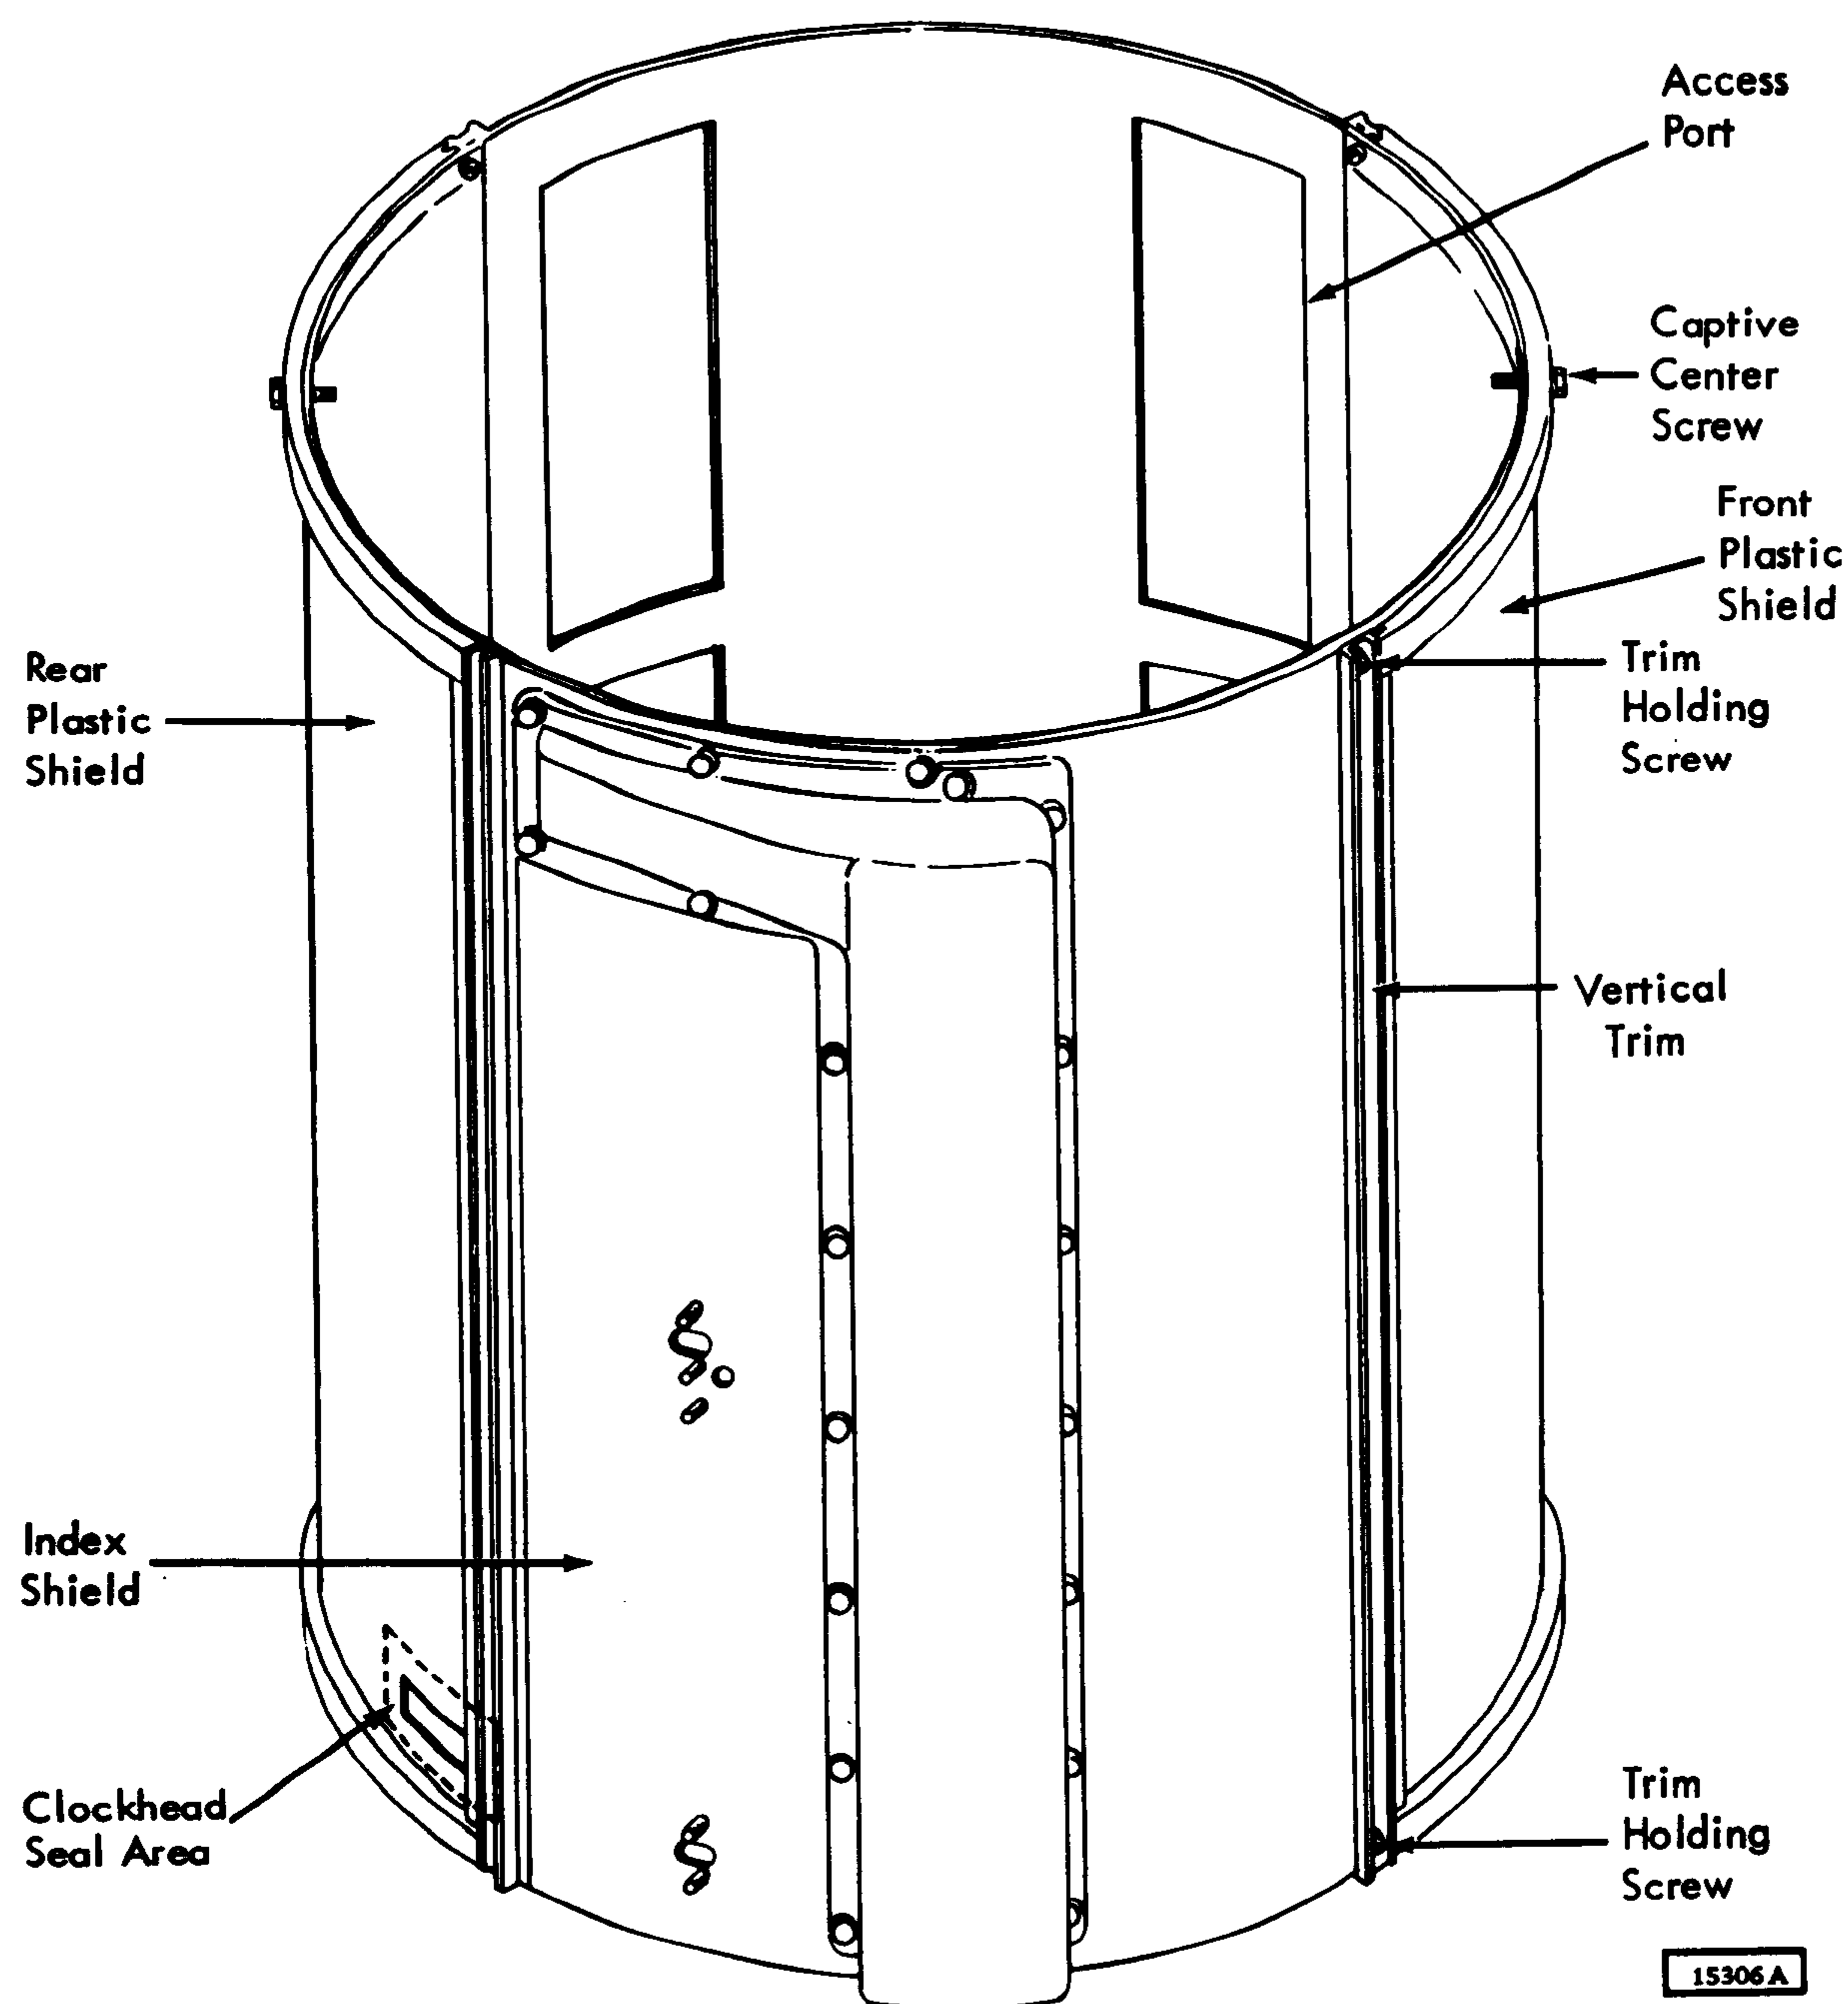

Figure 4-1. Disk Array Shields
2. Vacuum false floor and all surfaces surrounding plastic shields (Figure 4-1).
5. Remove vertical trim (Figure 4-1).
1. Clean the plastic shield (Figure 4-1) with Isopropyl Alcohol and lint-free tissue.
4.3.2 Index shield (Figure 4-1)
4.3.3 Access Port Shield (Figure 4-1)